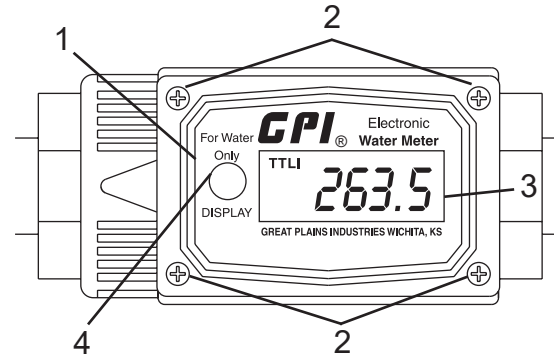

Figure 156
6. Activate the display by briefly pressing the DISPLAY button (Figure 156, Item 4).
7. Check the display (Figure 156, Item 3) to verify that it is operating normally. Re-seat the batteries if needed.
8. Install the meter faceplate (Figure 156, Item 1) on the meter body with four screws (Figure 156, Item 2).